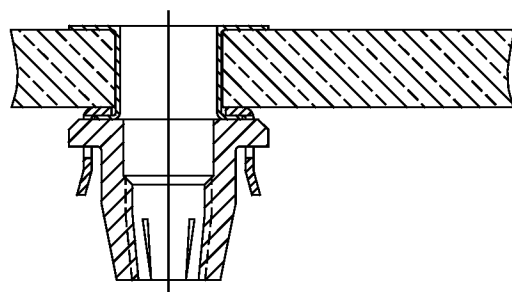

FIGURE 6
6. FIGURE 6, SHOWN COMPLETED OF ASSEMBLY.